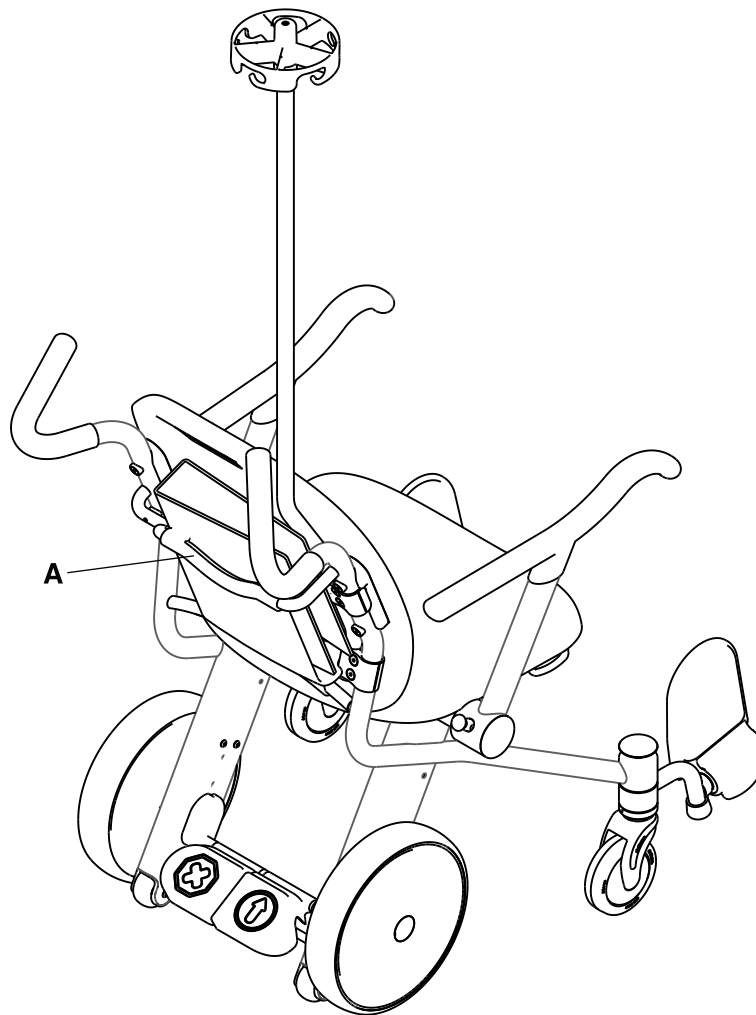

Figure 12: Storing records in the chart holder
Use the chart holder to store and transport occupant records (A) (Figure 12 on page 23). The chart holder holds a 3-inch, three-ring binder.